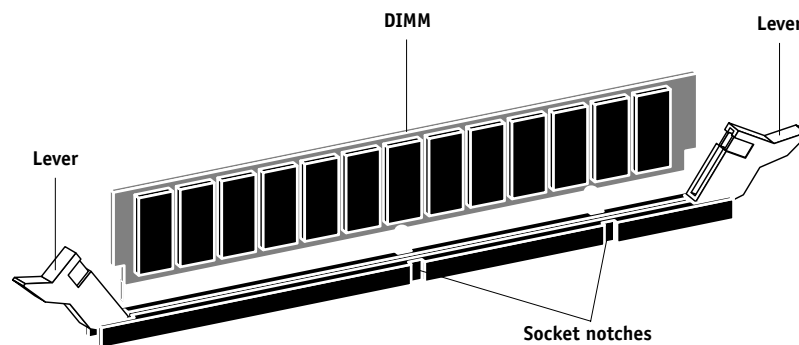

FIGURE 4-7 Releasing a DIMM
3. To release a DIMM, push outward on the levers on each side of the DIMM (see Figure 4-7).